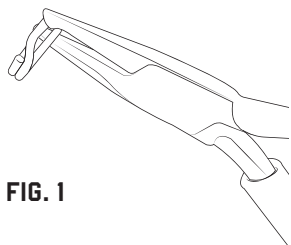

FIG. 1
1. Open one end of the split ring wire. (Fig. 1)